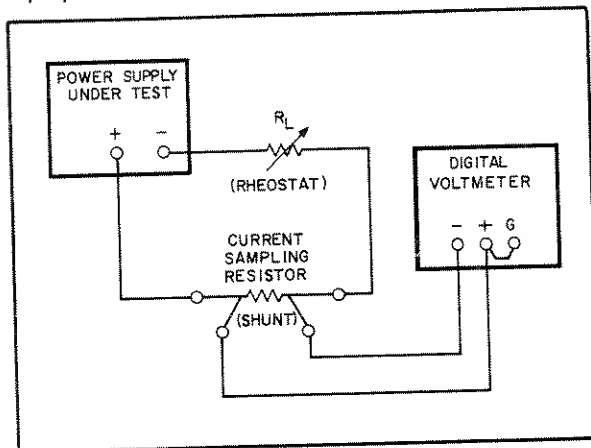

Figure 5-2. Output Current, Test Setup
- a. Connect test setup shown in Figure 5-2. Select load and current sampling resistor values according to Paragraphs 5-11 and 5-13.